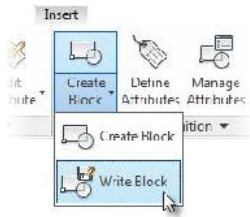

FIGURE 14.2: Starting the Write Block (WBLOCK) command from the Ribbon
5. Start the Write Block (WBLOCK) command by expanding the Create Block tool on the Insert tab > Block Definition panel (see Figure 14.2).